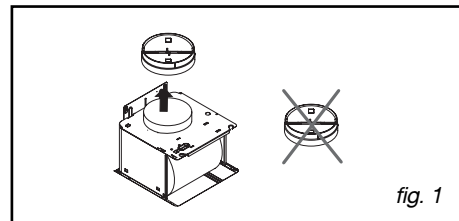

fig. 1
– Draw a horizontal line 70 cm minimum from the cook top (fig. 1).
– Draw a vertical line (B/fig. 1) on the wall that is centred over the cook top and that extends from the horizontal line drawn in the previous step (A) to the ceiling.
– Cut the drilling template by following the dotted lines to obtain two parts, C1 and C2 (fig. 1).
– Place the C2 template (fig. 1) on the wall, superimposing the line that represents the hood's axis over vertical line B (fig. 1) drawn in a previous step.
– Place the C1 template (fig. 1) against the wall flush with the ceiling.
– Screw in the top two screws for the hood (D/fig. 1), leaving 5 mm sticking out from the wall.
– Using the two screws (fig. 1), attach the metal chimney bracket against the wall, flush with the ceiling for support.
- Remove the back-flow valve (fig. 1).
- **Dismantling the filter cartridge (fig. 1)**
- Remove the lighting port (fig. 1).